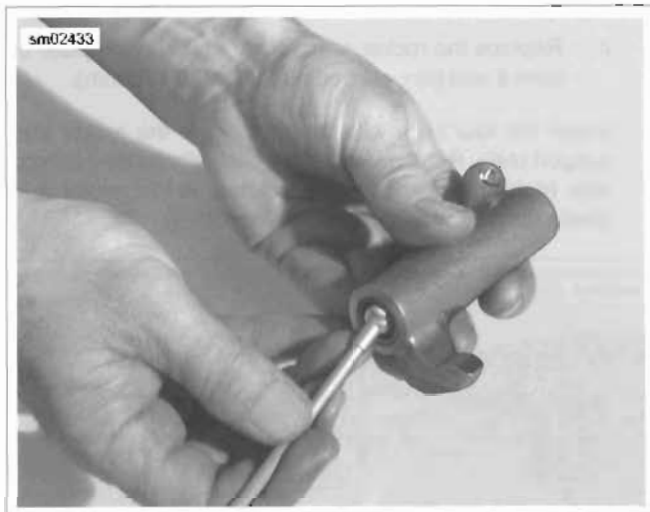

Figure 3-33. Checking Bushings
- a. See Figure 3-33. Measure the inside diameter of the rocker arm bushing.